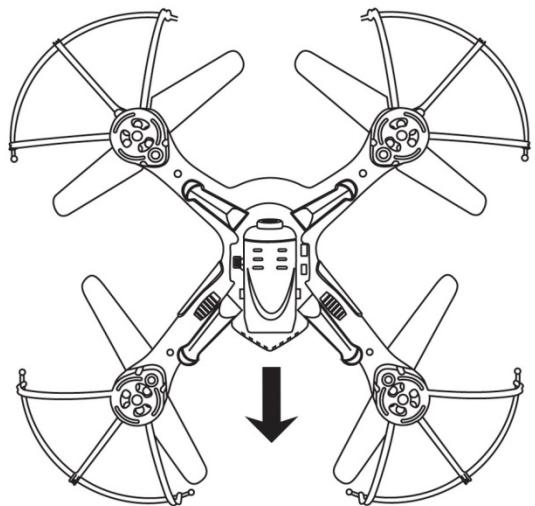

Fig 1
1. Open the Camera Module/Battery Door by slide it out then lift up as Fig 1 below.